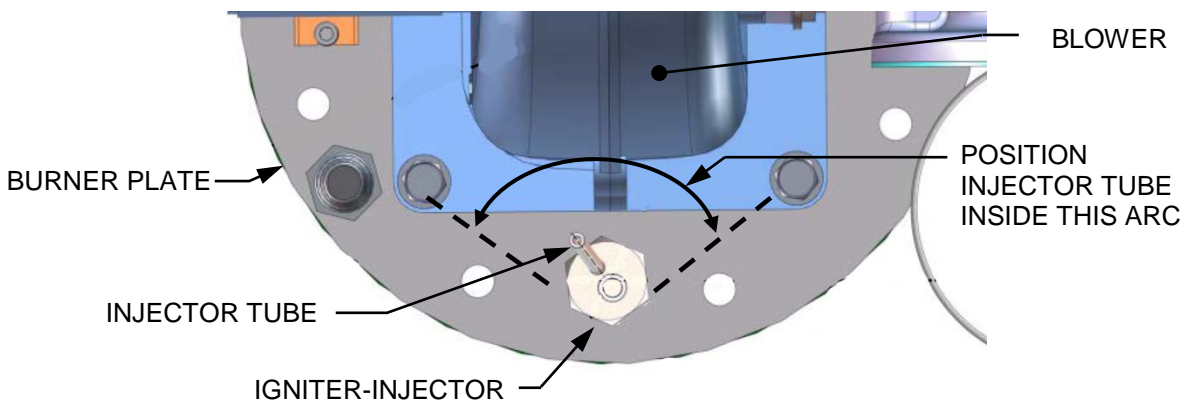
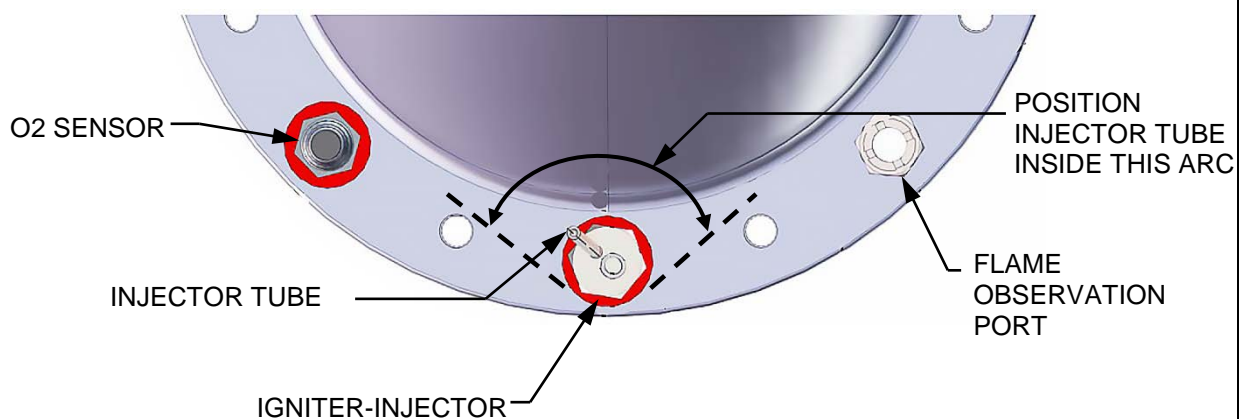

Figure 4-3a: BMK 750/1000 Igniter-Injector Orientation
Figure 4-3c: BMK 2500/3000 Igniter-Injector Orientation
8. Reinstall the igniter-injector in the burner plate using 1 to 3 indexing washers, as needed, so that when the igniter-injector is tightened, its injector tube will be positioned within the approximately 120° arc shown in Figure 4-3a through Figure 4-3c, below. Note, the recommended injection tube positioning differs for the positioning recommended in the past.
During reassembly, apply a light coating of high-temperature, anti-seize lubricant to the threads of the igniter-injector and grounding screw. Also, ensure that the igniter-injector is properly positioned as indicated in Figure 4-3a. Torque the igniter-injector to **14 - 15 ft-lbs. (19.0 - 20.3 Nm)**.